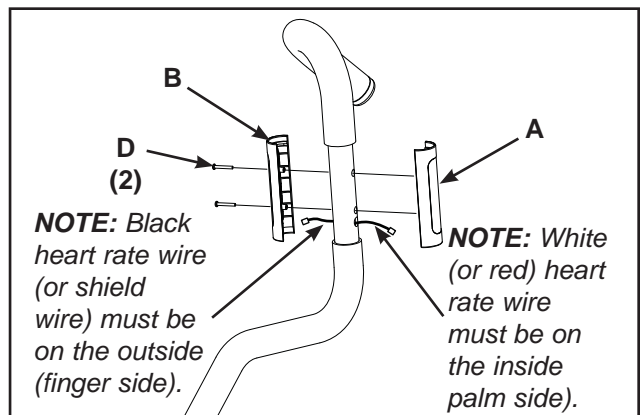

Figure 3
- A. Using a Phillips screwdriver, remove the two screws securing the plastic sensor grips in place. See Figure 3.
- B. Disconnect the heart rate wire from each grip. See Figure 3.
- C. Slide the black (or shield) wire through the large (lower) outside or finger side hole. Slide the white (or red) wire through the inside or palm side hole. See Figure 3.
- D. Connect the white (or red) wire to the tab on the top plastic sensor grip (A). See Figure 3.
- E. Connect the black (or shield) wire to the tab on the bottom plastic sensor grip (B). See Figure 3.
- F. Using a Phillips screwdriver, attach the two screws (D) securing the grips A and B in place. See Figure 3. **NOTE:** Do not over tighten grips.